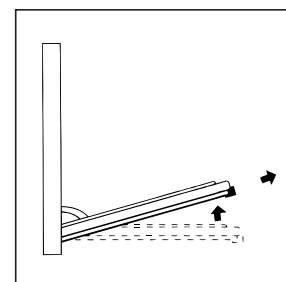

fig 4b
- Now, shutting the door slightly, you can lift it out by pulling out the hooks "A" as shown in figure 4b